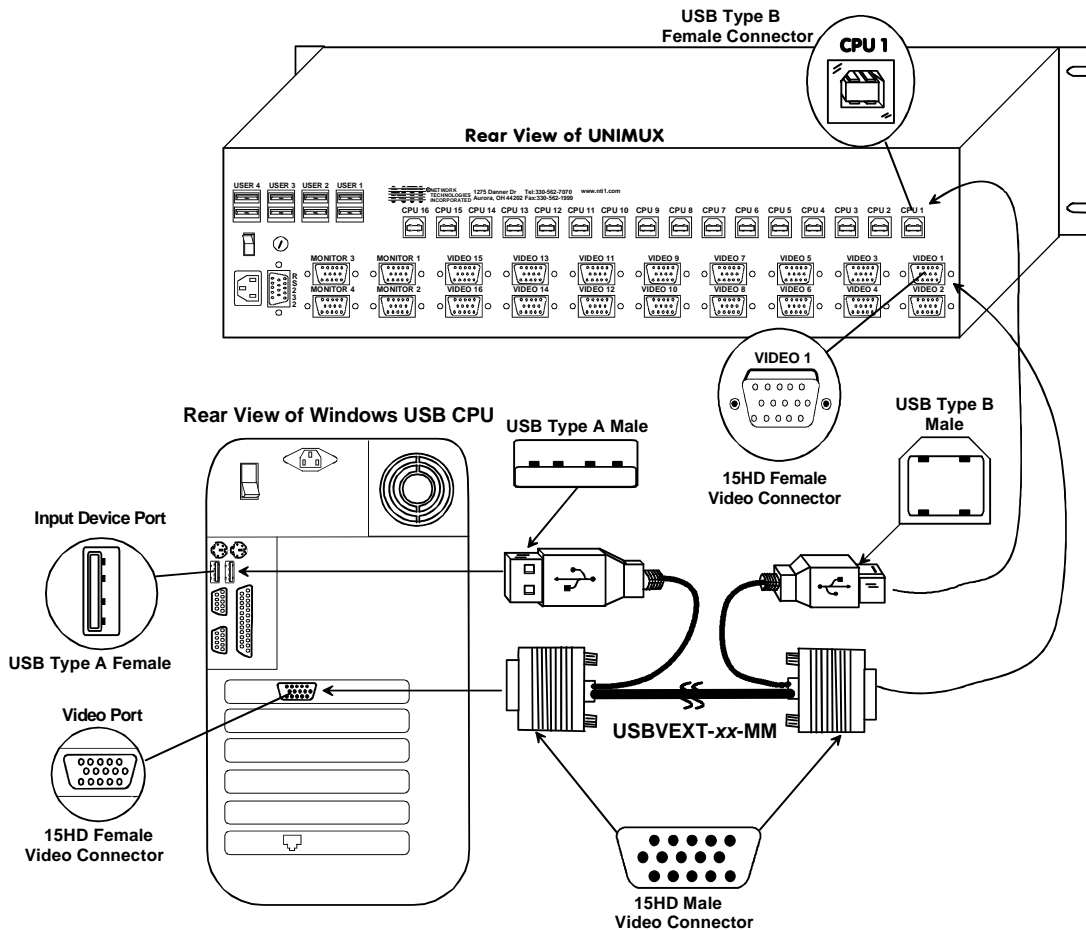

Figure 7- Connect each CPU using a USBVEXT-xx-MM cable
- Connect the 15HD male cable ends of a USBVEXT-xx-MM cable from the video port of the same CPU to a VIDEO x port of the UNIMUX switch with the same port number as the user device cable. (See Figure 7.)
**Note: Make sure the CPU is connected to a Keyboard port and a Video port with the same number. (See Figure 7.)**